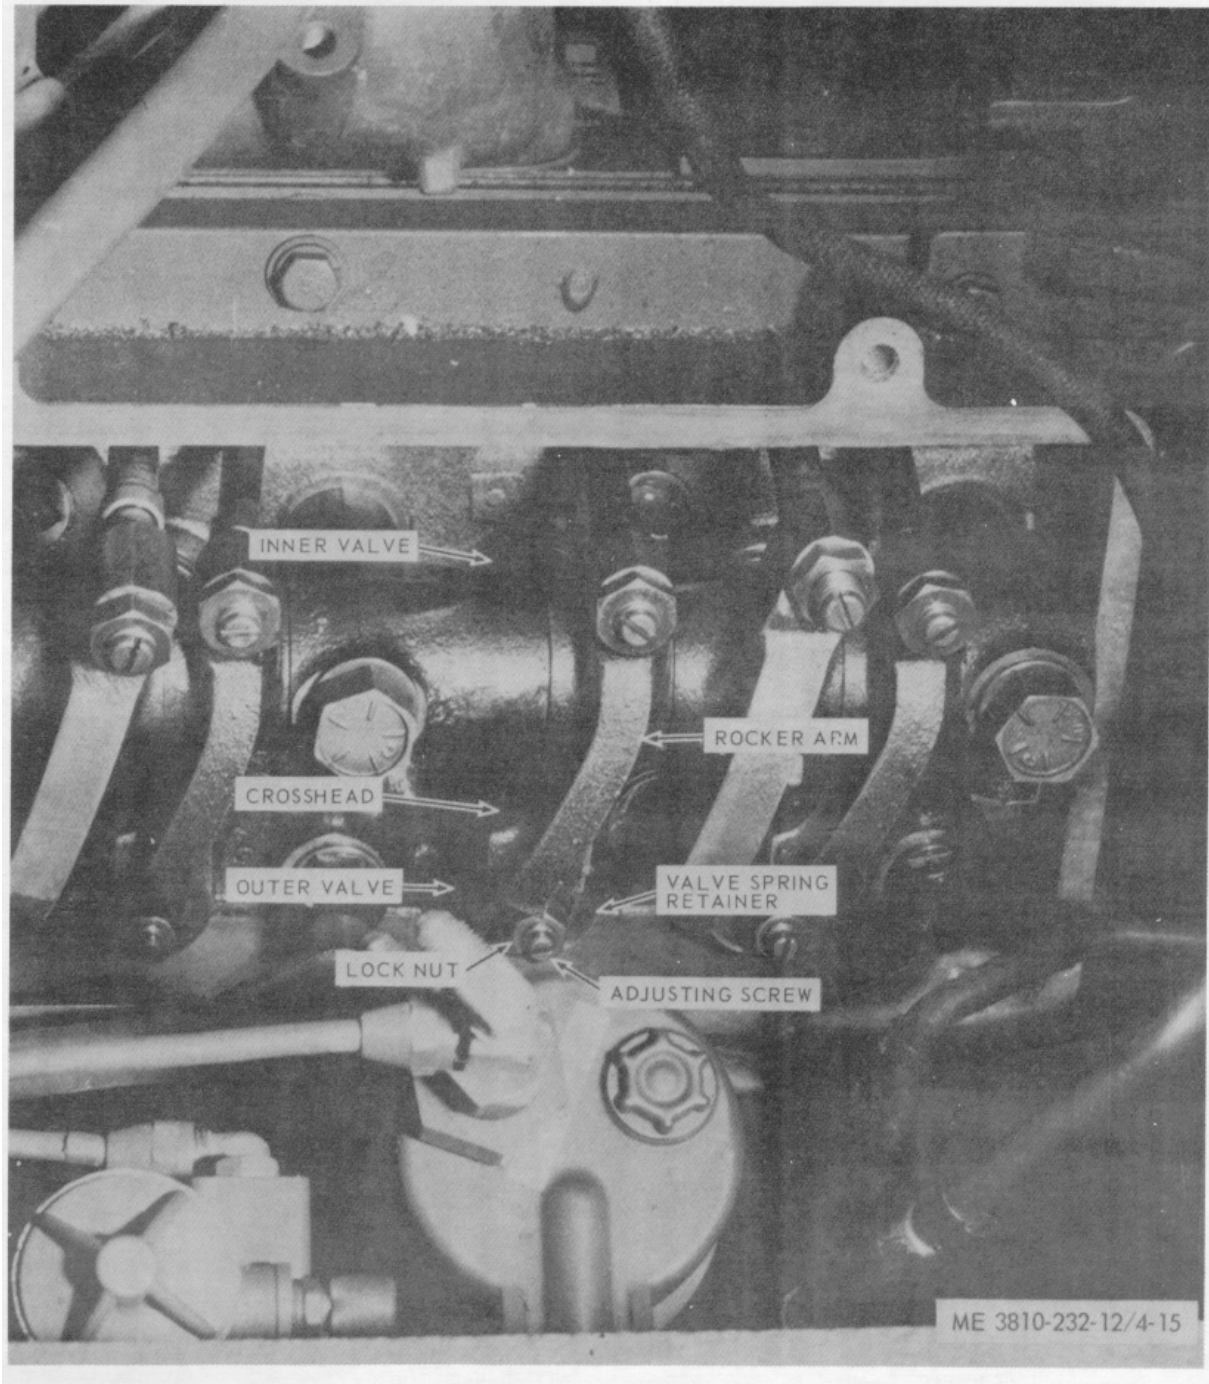

Figure 4-15. Carrier engine valve crosshead adjustment.
(1) Loosen valve crosshead adjusting screw lock-nut, illustrated in figure 4-15 and back off screw two to three turns.
(4) Hold adjusting screw in this position and tighten locknut (fig. 4-15).